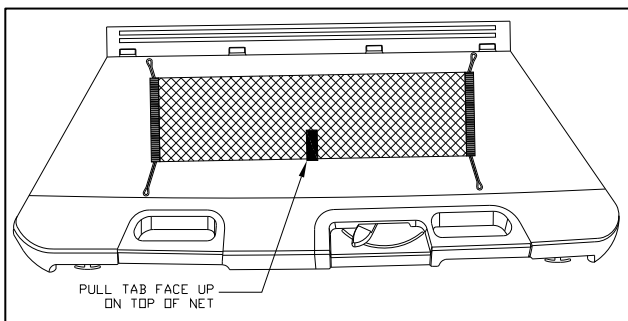

Fig. 1-3
- (c) Orient floor net on the slide-out load floor so pull tab is laying face up on top of the net and towards the rear of the vehicle. (Fig. 1-3)